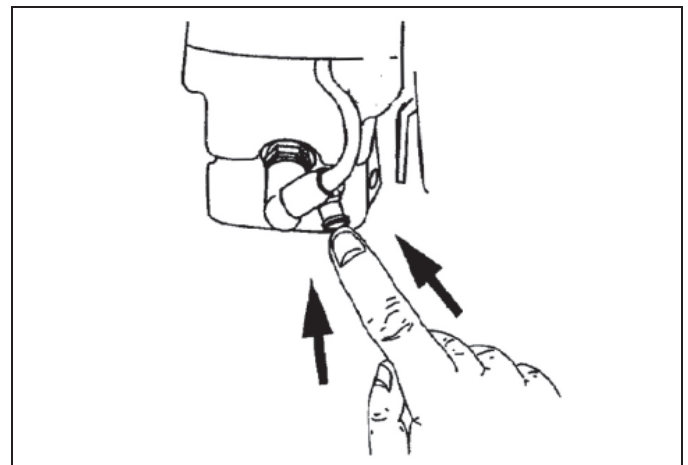

Fig. 8 Yellow Compression Relief Valve
4. Push yellow compression relief valve in. See Fig. 8.